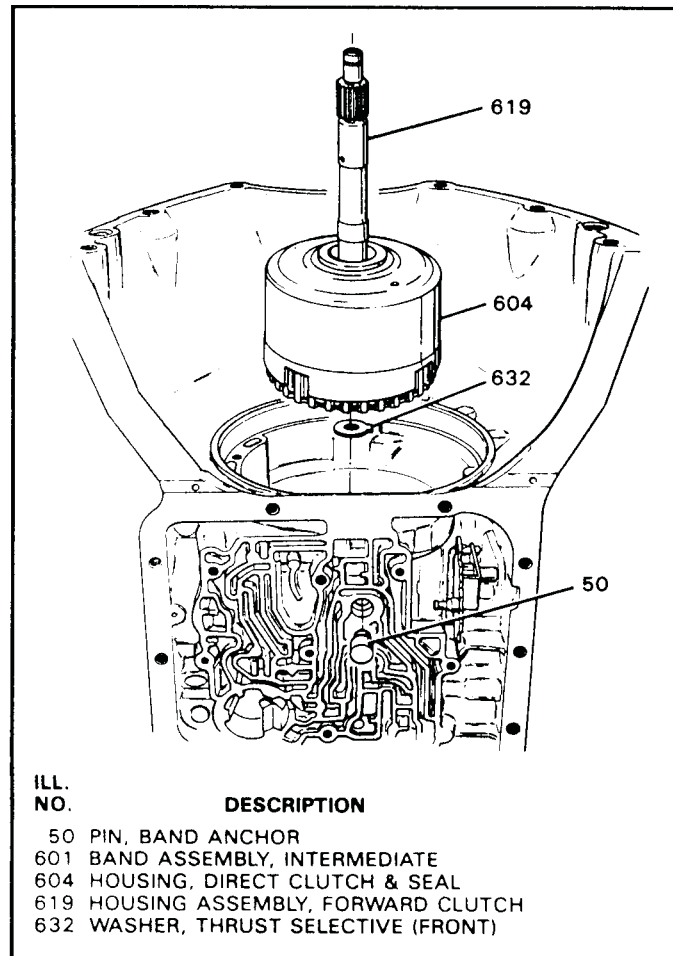

Figure 95
45. Install the pre-assembled forward and direct clutch housing assemblies into the case (See Figure 95).